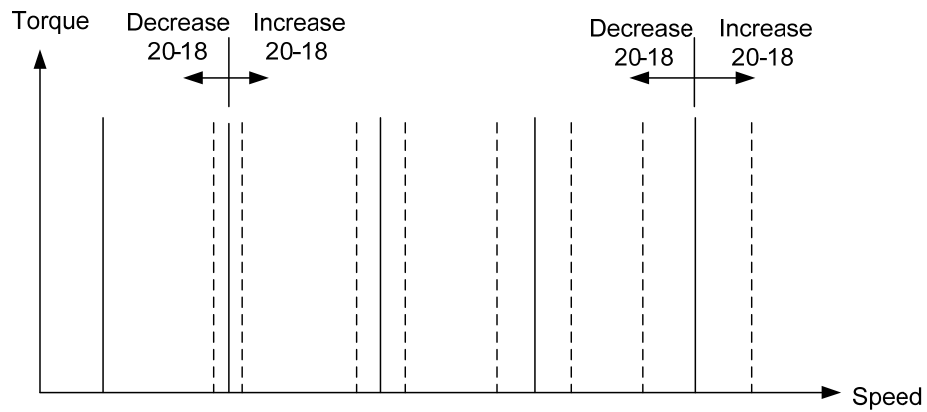

Figure 4.4.100 Effect on the torque-speed curve from 20-17
- Use parameter 20-18 to adjust the torque compensation gain for middle to high speed range. For most general purpose applications it is not necessary to adjust the 20-18. By tuning 20-18an offset is added to the torque-speed curve. Increase 20-18 when the no-load speed is lower than the frequency reference. Decrease 20-18 when the no-load speed is higher than the frequency reference. The effect on the torque-speed curve from 20-18 is shown as the following figure 4.4.100.